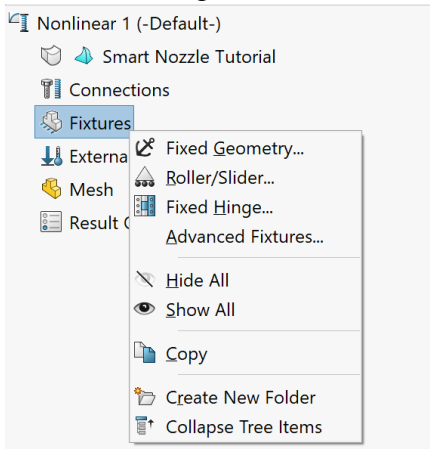
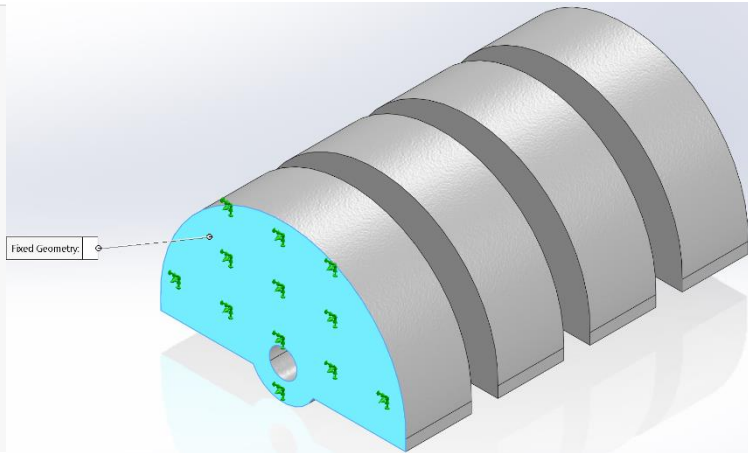

Figure 7: Fixture Menu
Figure 8: Fixture Selection on the Model
- A. To be able to run the study, we must determine which part of the model will be fixed so that the deformation can be actualized. For the use case of the smart nozzle, we will fix one end of the smart nozzle. Right click on “Fixtures” and select fixed geometry (Figure 7). To select the end of the nozzle, simply select the face of the model and click the green checkmark to accept the selection. A preview of your selection should be visible and you can reference this next to Figure 8.